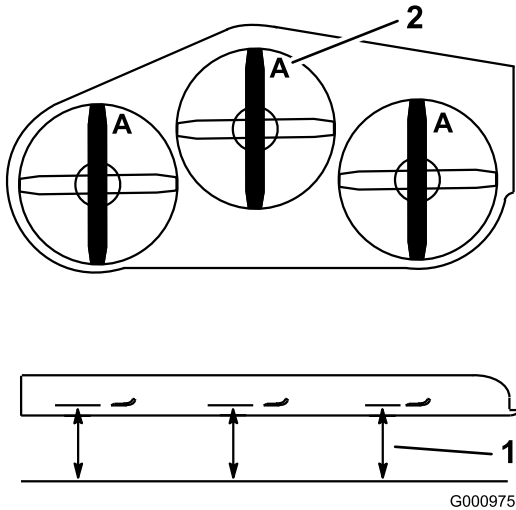

Figure 95
4. Measure from a level surface to the cutting edge, position **A**, of the blades (Figure 95).